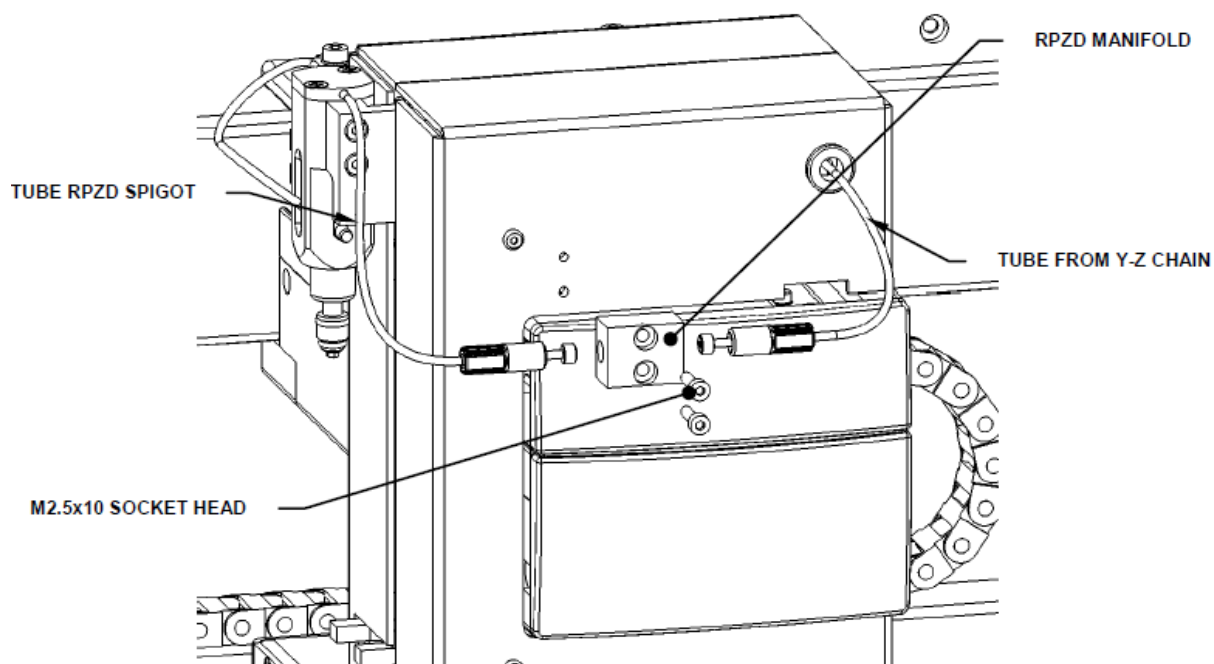

Figure O-2: Removing the Z- Drive
1. Unthread the Fitting Nuts on the PTFE Tubes from the Reagent Pipettor Z Drive and the Reagent Pipettor Y Drive Assembly into Reagent Pipettor Z Drive Manifold (Figure O-2).